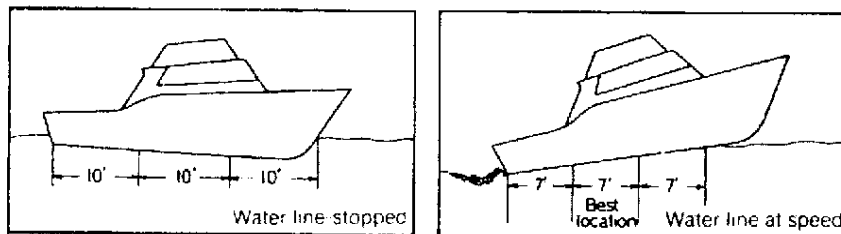

Figure 10
- (A) The triducer should be installed at a place where no bubbles and no water spiral are generated around it.
- (B) The triducer should be installed as far from the engine as possible, but not too close to the bow. Normally the triducer should be installed in the middle 1/3 of the hull, at speed as shown (Figure 10).
- (C) In case of flat bottom hull, the triducer can be installed in the constant water flow and parallel with the water surface --this is an ideal installation because the triducer surface, being in the constant water flow, generates few bubbles or water spirals and the triducer surface can emit the ultrasonic wave perpendicularly in the water for better receiving echoes from targets beneath your boat.